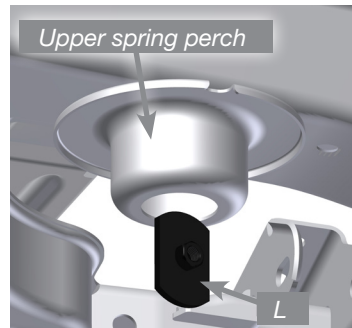

fig. 12
4. Insert the nut plate (L) into the opening within the upper spring perch with the flat of the plate facing downward, nut facing upward (Figs. 12 & 13).